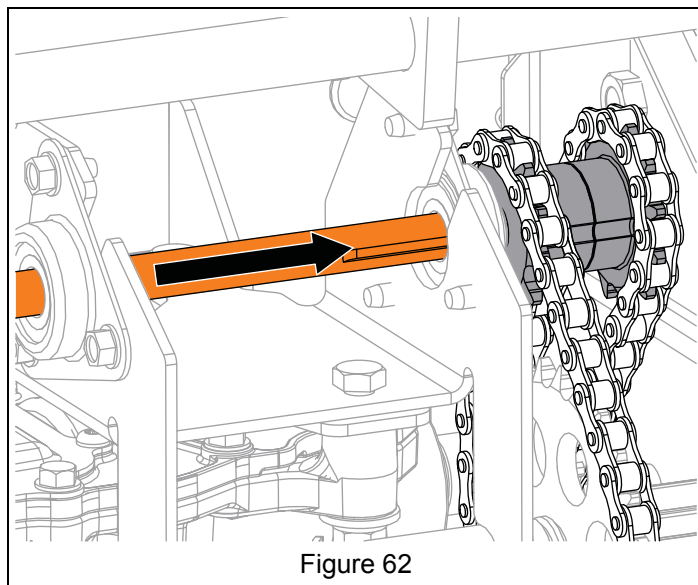

Figure 62
5. Align pinion sprocket keyways with reduction shaft keyway and insert reduction shaft through sprockets. See Figure 62.